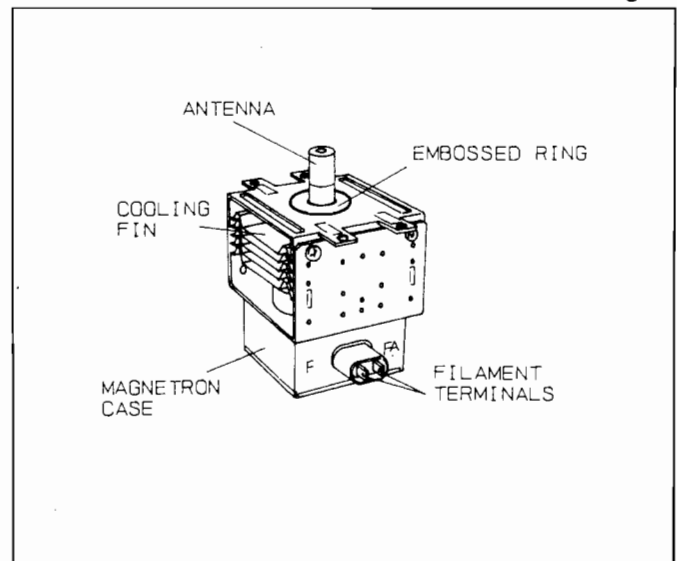

Fig. 31
4. Magnetron (Fig. 31)
- (A) Isolate magnetron from the circuit by disconnecting the leads.
- (B) A continuity check across magnetron filament terminals should indicate one ohm or less.
- (C) A continuity check between each filament terminal and magnetron case should read open.